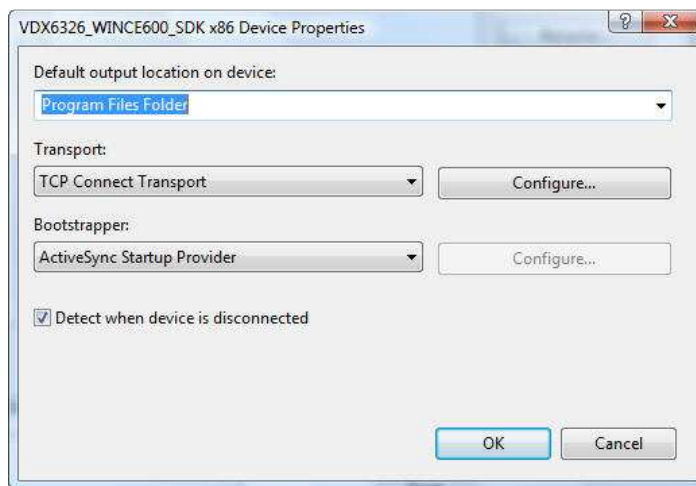

Fig. 41 - VDX6326_WINCE600 x86 Device properties
- Click on the **Properties** button to bring up **VDX6326_WINCE600 x86 Device Properties** setting screen, as shown in Figure 41.